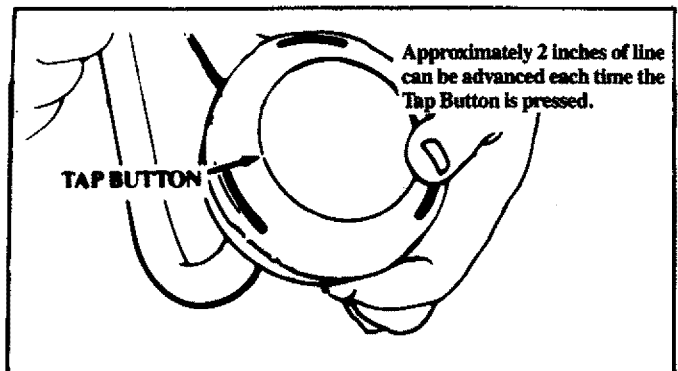

Figure 7
- Press the Tap Button and pull a minimum of 4 inches of Line from the Trimmer Head. Figure 7. Approximately 2 inches of line can be advanced each time the Tap Button is pressed.